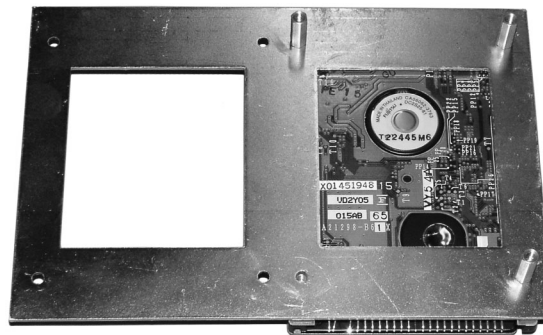

Fig. M3-7: Attach the hard drive mounting plate
2. Place the right side of drive mounting plate over the hard drive, aligning the holes in the plate with the threaded holes on the hard drive (see Fig. M3-7, below).
3. Screw three of the ¼-inch standoffs through the drive mounting plate into the top-left, top-right, and bottom-right threaded holes with the spacers. Screw one of the screws that came with the hard drive into the remaining hole (see Fig. M3-7, below).